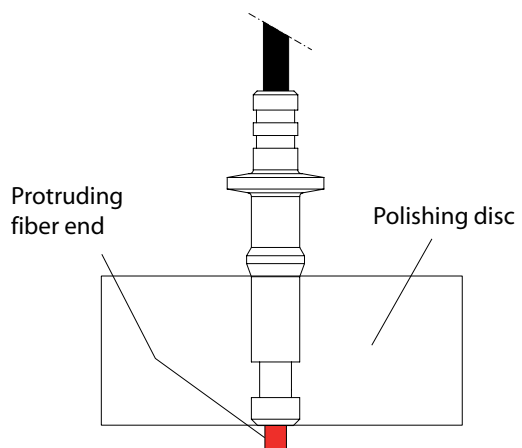

Fig. 7 Polishing disc with guide for connector sleeve
- Insert the connector into the polishing disc (910 PS H45 01 001) as shown in figure 7 and, working on a smooth surface (such as a sheet of glass), use grade 1000 polishing paper to grind off the protruding fiber and polish it with grade 4000 polishing paper